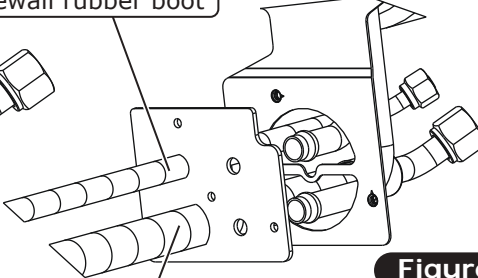

Figure 2
6. In the passenger compartment, route the 45° of the #6 A/C hose through the hole on the top-left of the firewall rubber boot (See Figures 2 and 3, below). Then, through the top hole on the evaporator firewall bracket.
7. In the passenger compartment, route the 45° of the #10 A/C hose through the hole on the bottom-left of the firewall rubber boot (See Figures 2 and 3, below). Then, through the bottom hole on the evaporator firewall bracket.